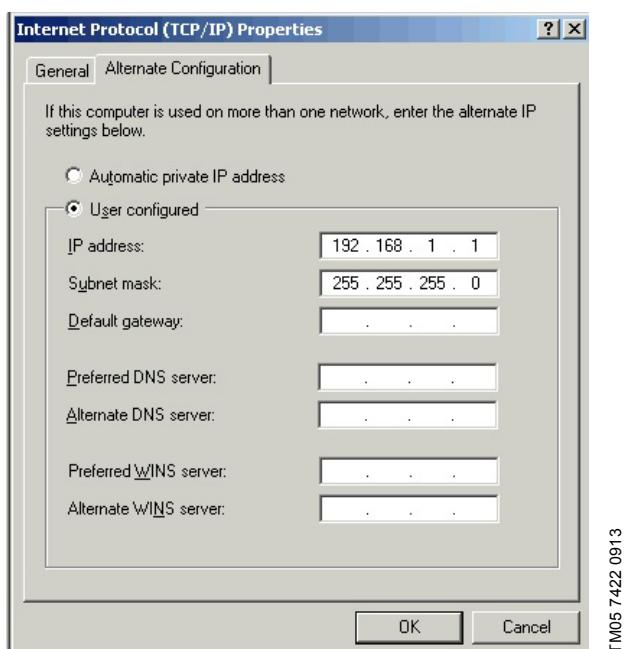

Fig. 28 Example from Windows XP
7. Configure an IP address and subnet mask to be used by your PC. See fig. 28.